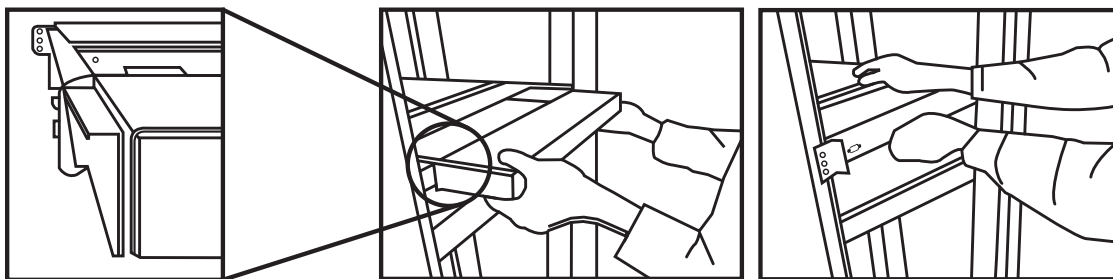

Figure 3-8. Pushing the module towards the console drawer.
5. Push the KVM switch module evenly towards the drawer. See Figure 3-8.